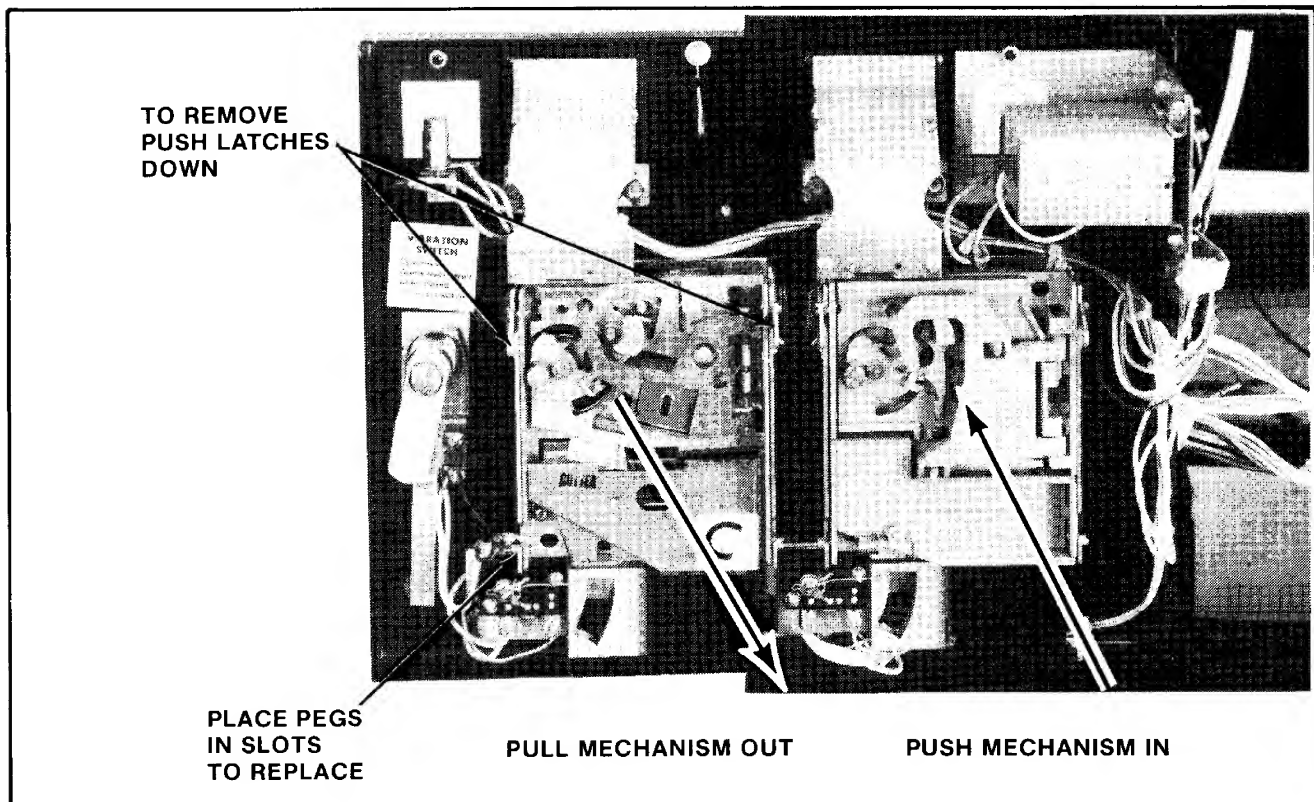

Figure 7-1 Removing and replacing coin acceptor
3. Remove the coin acceptor mechanism as shown in Figure 7-1.